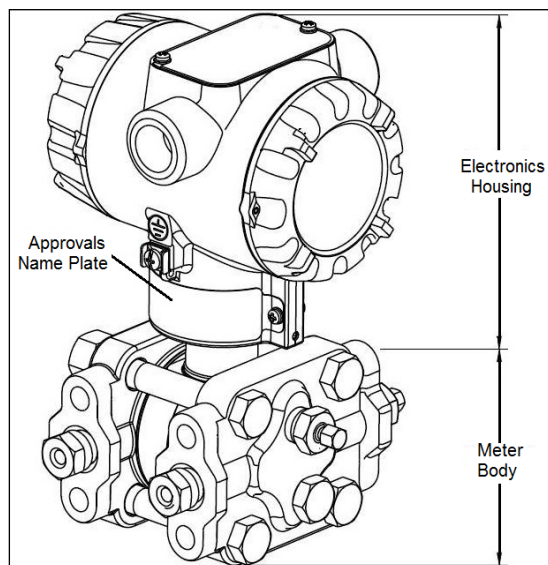
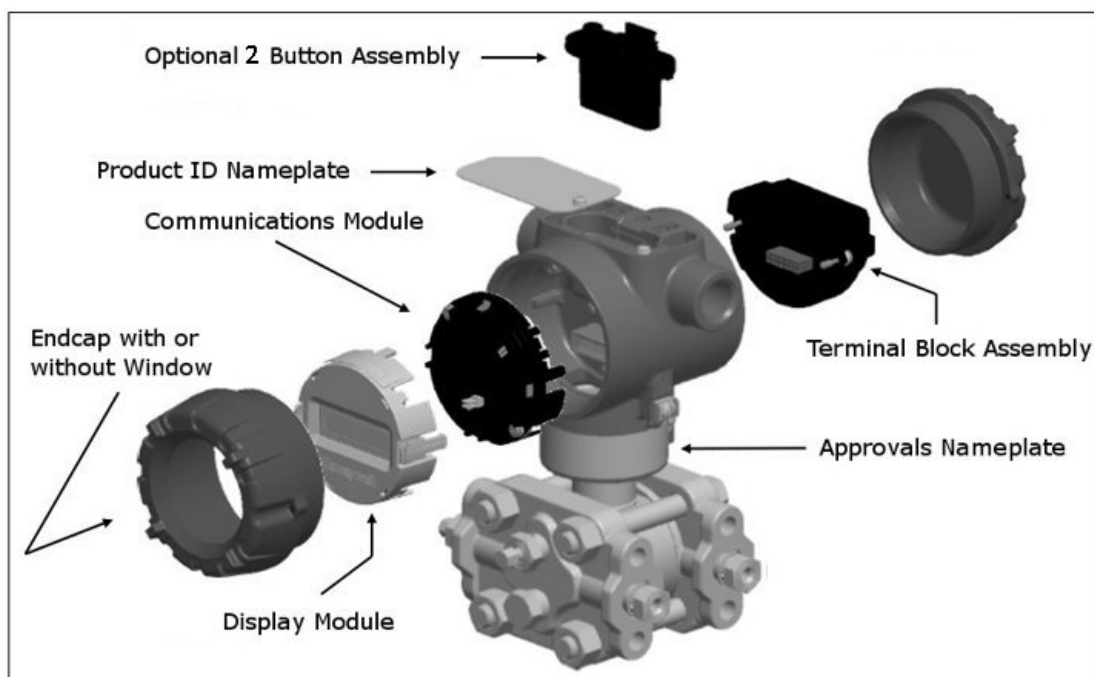

Figure 41 – ST 700 Basic Transmitter - Major Assemblies
Figure 42 – ST 700 Basic transmitter Electronics Housing Components
As shown in Figure 41 the ST 700 basic transmitter is packaged in two major assemblies: the electronics housing and the meter body. The elements in the electronic housing respond to setup commands and execute the software and protocol for the different pressure measurement types. Figure 42 shows the assemblies in the electronics housing with available options.
The transmitter nameplate mounted on the bottom of the electronics housing (see Figure 42) lists its model number, physical configuration, electronics options, accessories, certifications, and manufacturing specialties. Figure 43 is an example of a typical Gauge Pressure (GP) or Atmospheric Pressure (AP) transmitter name plate. The model number format consists of a Key Number with several table selections. The Differential Pressure (DP), Absolute Pressure (AP), and Gauge Pressure (GP) name plates are essentially the same. The DP model provides one additional entry (7 vs. 6) in the meter body selections (Figure 43) to accommodate the static pressure rating.
An “Approvals” name plate is located on the bottom of the Electronics Assembly; see Figure 42 exact location. The approvals name plate contains information and service marks that disclose the transmitter compliance information.
Zero and Span adjustments are possible in ST 700 basic transmitter with the optional external 2-button and integrated two-button assemblies. See Figure 42 for the external 2-button assembly.